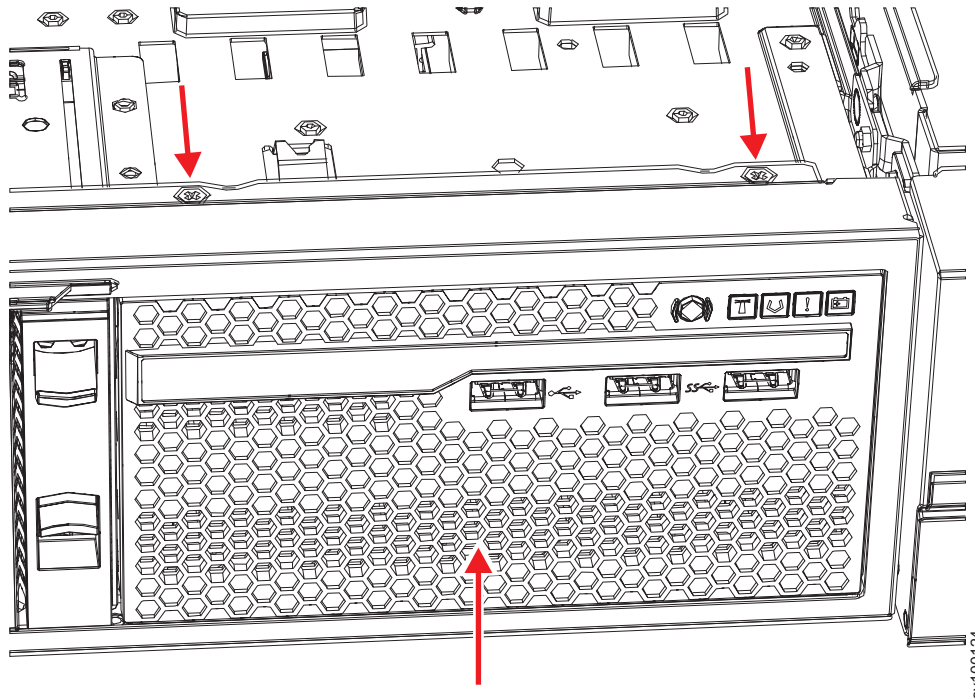

Figure 163. Replacing the 2145-SV1 operator-information panel
2. From the front of the node, slide the operator-information panel into the node until it clicks into place, as shown in Figure 163 on page 194.